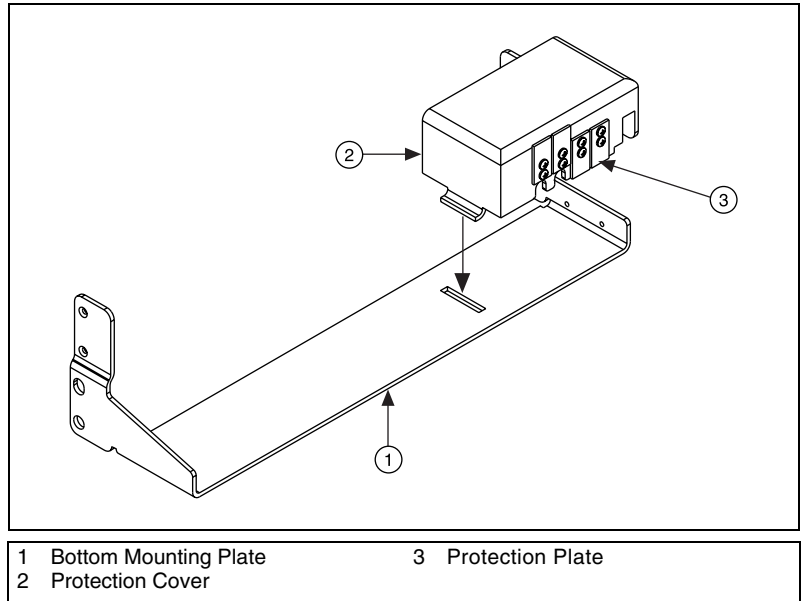

Figure 9. Rear Guard Consisting of the Protection Cover, Protection Plates, and Bottom Mounting Plate
The rear guard consists of the protection cover, protection plates, and bottom mounting plate as shown in Figure 9.
- b. Lift the protection cover from the slot on the bottom mounting plate, as shown in Figure 9.
- a. Insert the tab of the protection cover, shown in Figure 9, into the slot on the bottom mounting plate.